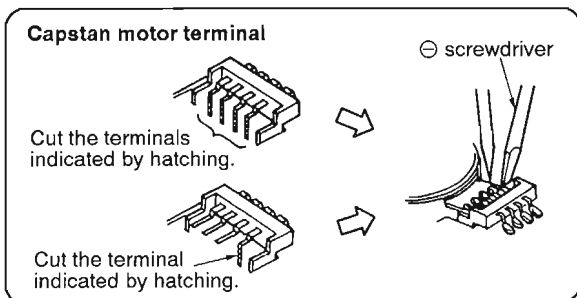

Fig. 2
1. Remove the 2 screws (①, ②).
■ The difference types of capstan motor terminal are used for the units. When assembling/reassembling, refer to the Fig. 1 and Fig. 2.